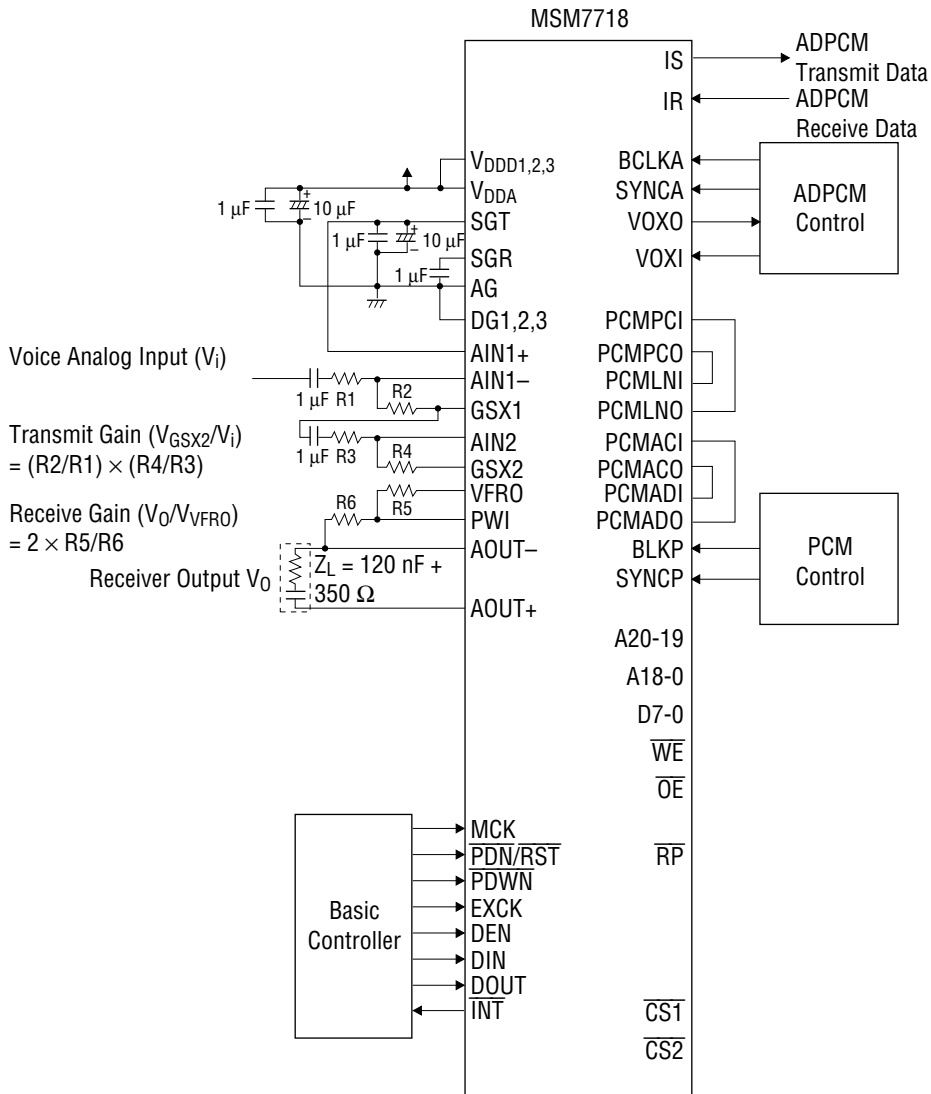

**Figure 8-1 Flow Chart of Default Value Store Memory Direct Access**
**Direct Access to Default Store Memory (See Figs.8-1, 8-2)**